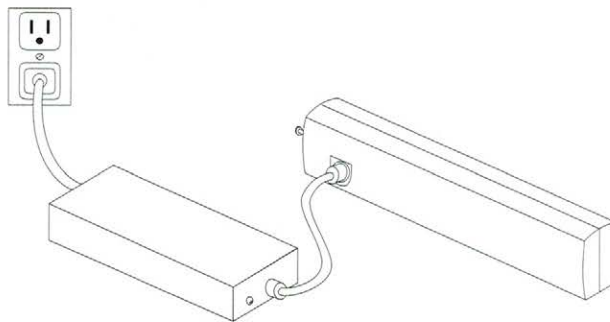

Figure 4-5. Charging Battery Pack Directly from the Power Supply
- Remove the battery pack from the computer and connect the power supply or auto adapter directly to the battery pack. Plug one end into the power supply and plug the other end into the connector on the battery pack, as shown in Figure 4-5. Connect the power supply to the wall outlet using the power cord. You can use this method to recharge one battery pack externally while using another on the computer, if you have more than one battery pack.